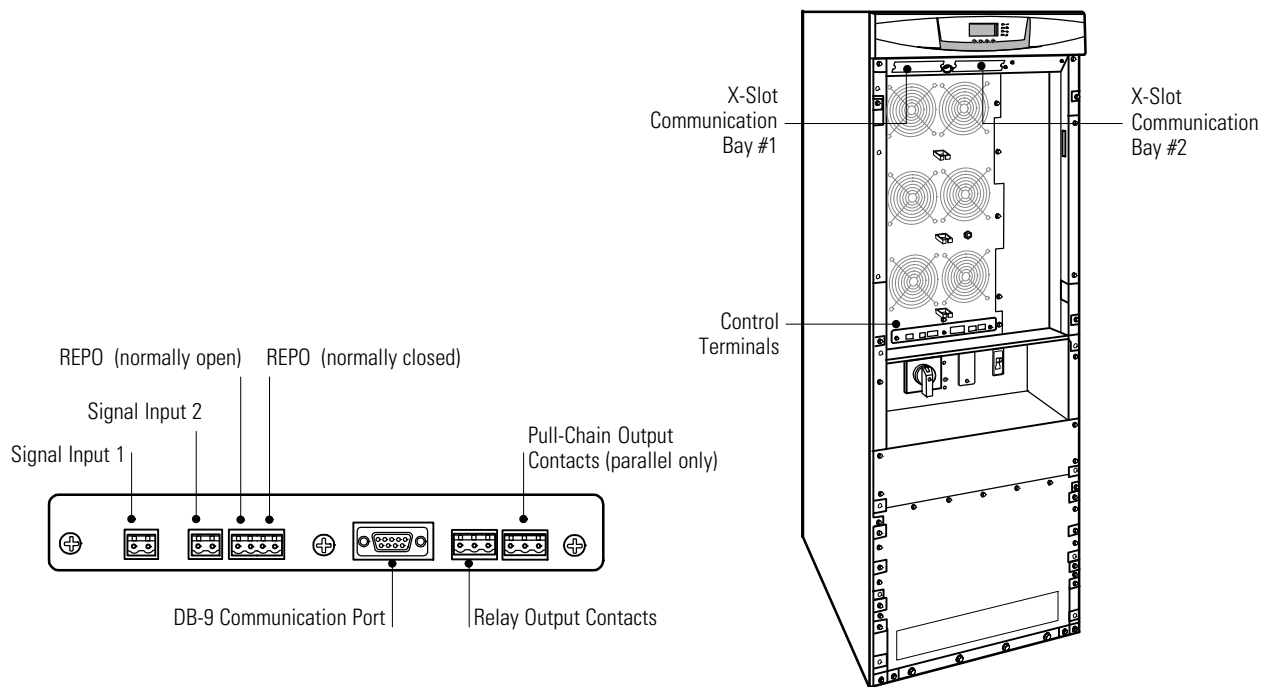
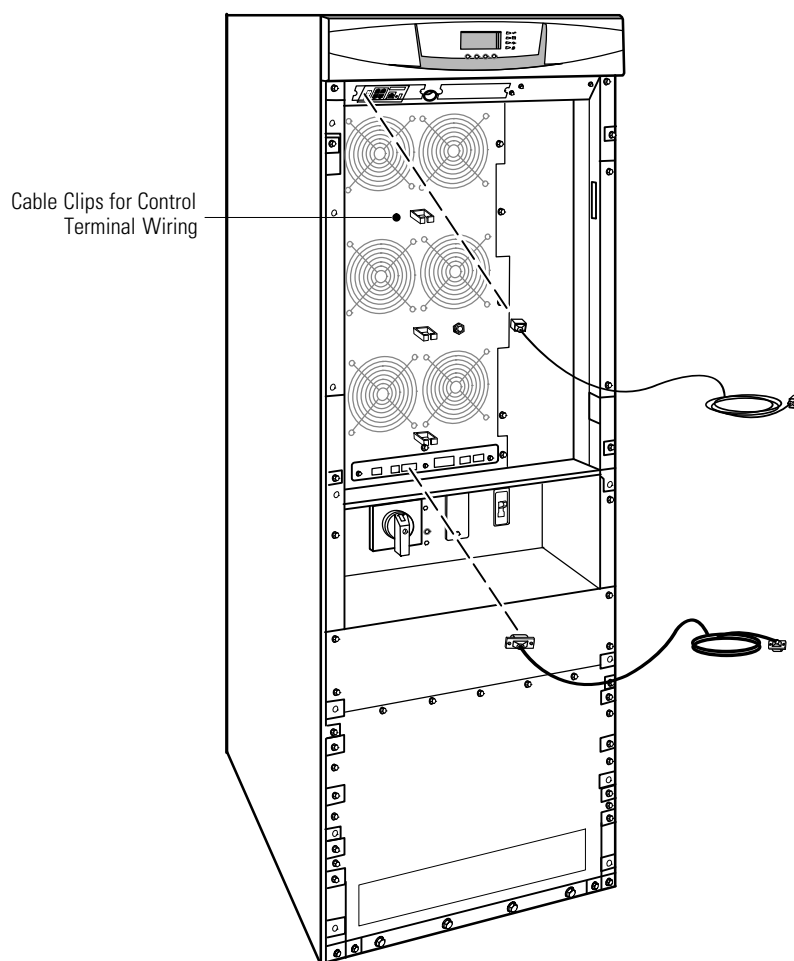
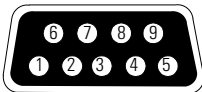

Figure 36. Communication Options and Control Terminals
Figure 37. Installing Communication Cables
Figure 40. Communication Port
Figure 36 shows the location of the communication options and control terminals on the UPS.
2. Install the appropriate X-Slot card and/or necessary cables into the ports (see Figure 36 and Figure 37).
The cable pins are identified in Figure 40 and the pin functions are described in Table 2. See Figure 36 on page 53 for the communication port location.
See Figure 36 on page 53 for the location of the two X-Slot communication bays.
5. Install the IRC into an open X-Slot communication bay (see Figure 36 on page 53).
4. Install the IRC into an open X-Slot communication bay (see Figure 36 on page 53).